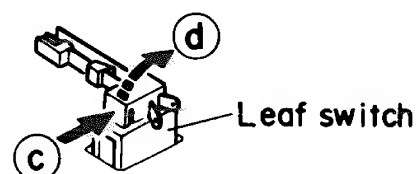

Fig.2-12
#### ■ Leaf switch (Fig.2-12)
1. Press the leaf switch in the direction of the arrow ③ and then remove it in the direction of the arrow ④ referring to Fig.2-12.